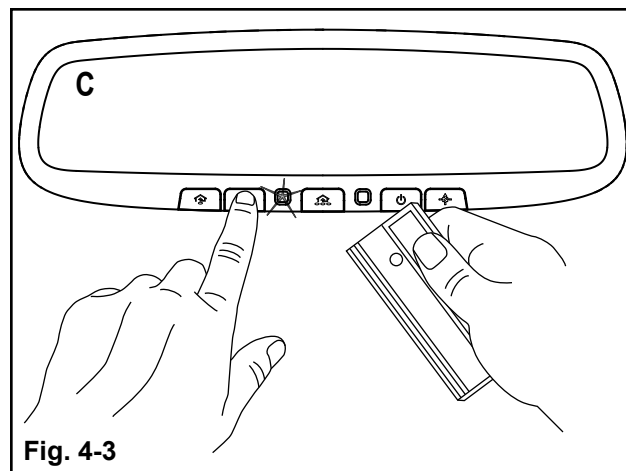

Fig. 4-3
- e) When the indicator light flashes rapidly, both buttons may be released. (The rapid flashing indicates successful training.) (Fig 4-3)